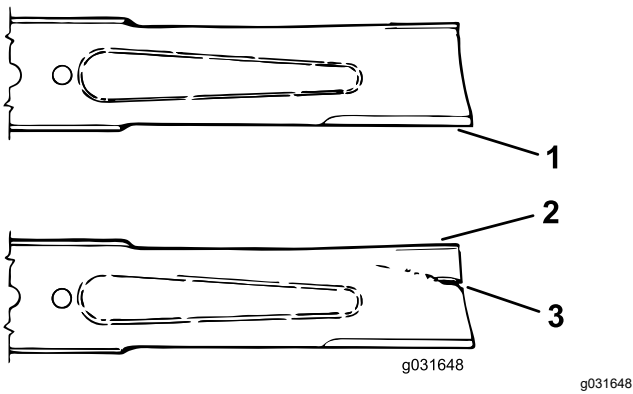

Figure 71
- Examine the cutting ends of the blade carefully, especially where the flat and curved parts of the blade meet (Figure 71).